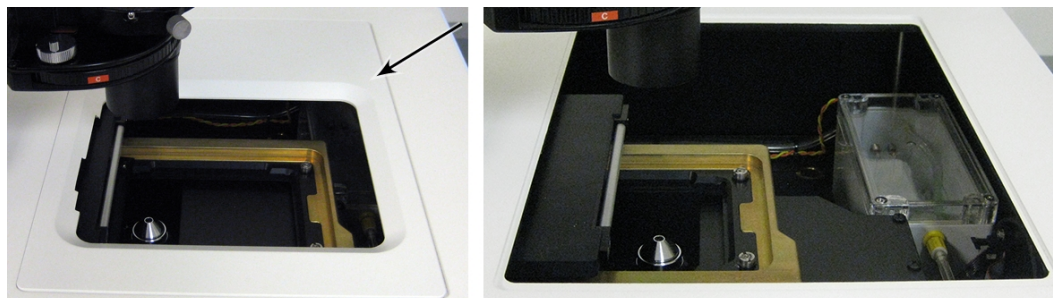

Figure 7-10: Access Panel Around the Top Door On and Off
11. Replace the top access panel surrounding the top door and close the upper hinged side door. See Figure 7-10.